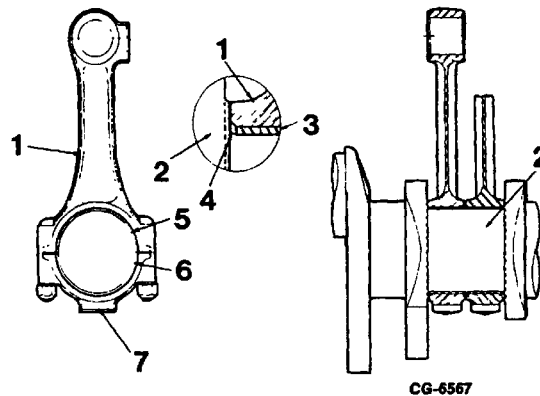

Figure 83. Proper Installation of Connection Rod to Crankshaft
25. It is important, that rod and piston be assembled correctly, so that when piston is installed in engine, the large, chamfered side of each rod is located against crankshaft face. The chamfer provides clearance for the crankshaft fillet (Figure 83).